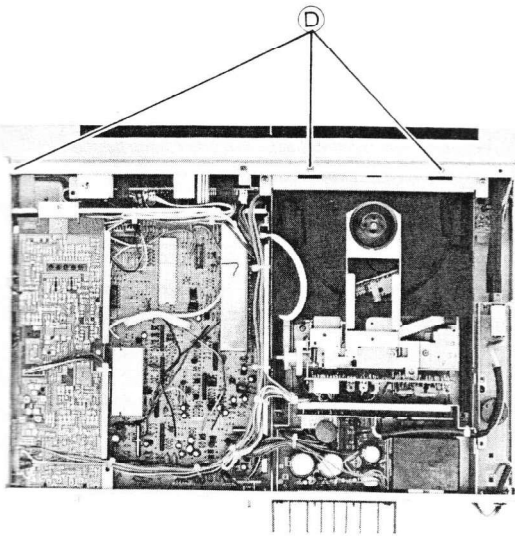

Figure 7
7. Remove three screws (D) (3φ x 6mm), and three screws (E) (3φ x 8mm), and the front panel can be removed from unit. (Figure 7 and 8)